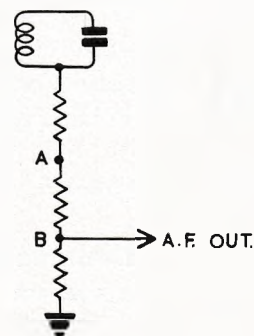

FIGURE 1.2.
15. The conducting diode V205B provides a direct connection for the modulation voltages developed across R227 and R228 to the A.F. stages of the receiver. R224, shunted by the stray capacity of V205A, both in series with C230, have a negligible shunting effect across the A.F. output. A secondary path for modulation frequencies exists from point A via R222, but severe attenuation is introduced in this path by C230, whose reactance at modulation frequencies is low compared with the resistance of R222, and by the fact that mutually-cancelling modulation frequency currents are circulating in R224 and the shunt stray capacitance of V205A-forward from point C to the A.F. output, and backwards from the cathode of V205B to point C, as described above. In consequence the modulation frequency circuit simplifies to Fig. 1.2. below